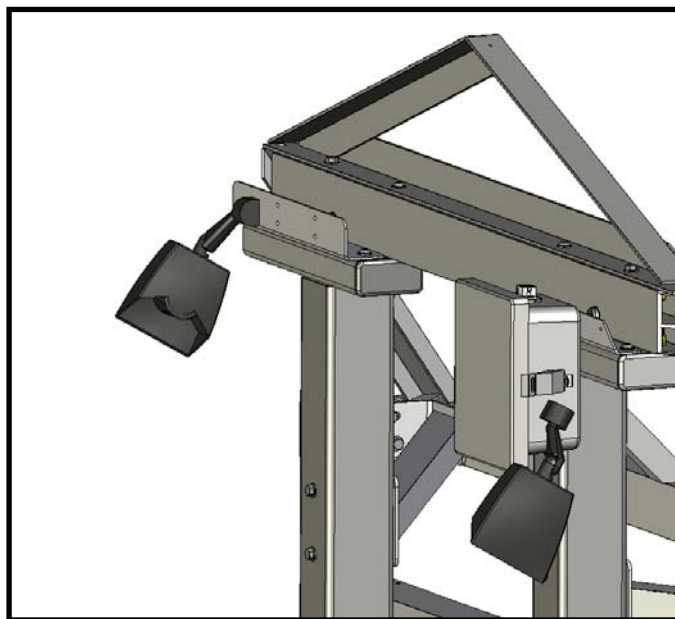

Figure 16
- g) Connect motion sensor connector to the medium black connector on the harness. Figure 16 shows the secondary motion sensor fully installed.